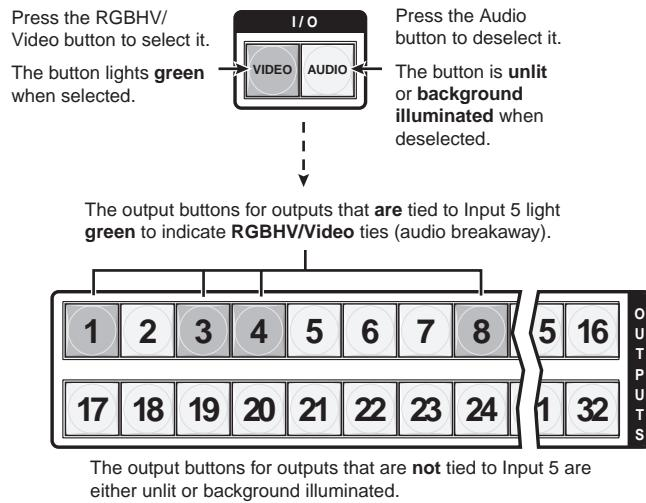

Figure 3-27 — Deselect audio and select RGBHV or video to view RGBHV or video only
6. Press and release the RGBHV (CrossPoint 450 Plus switchers) or Video (MAV Plus switchers) button and the Audio button to toggle the RGBHV or Video button on green and the Audio button either unlit or providing background illumination (figure 3-27).